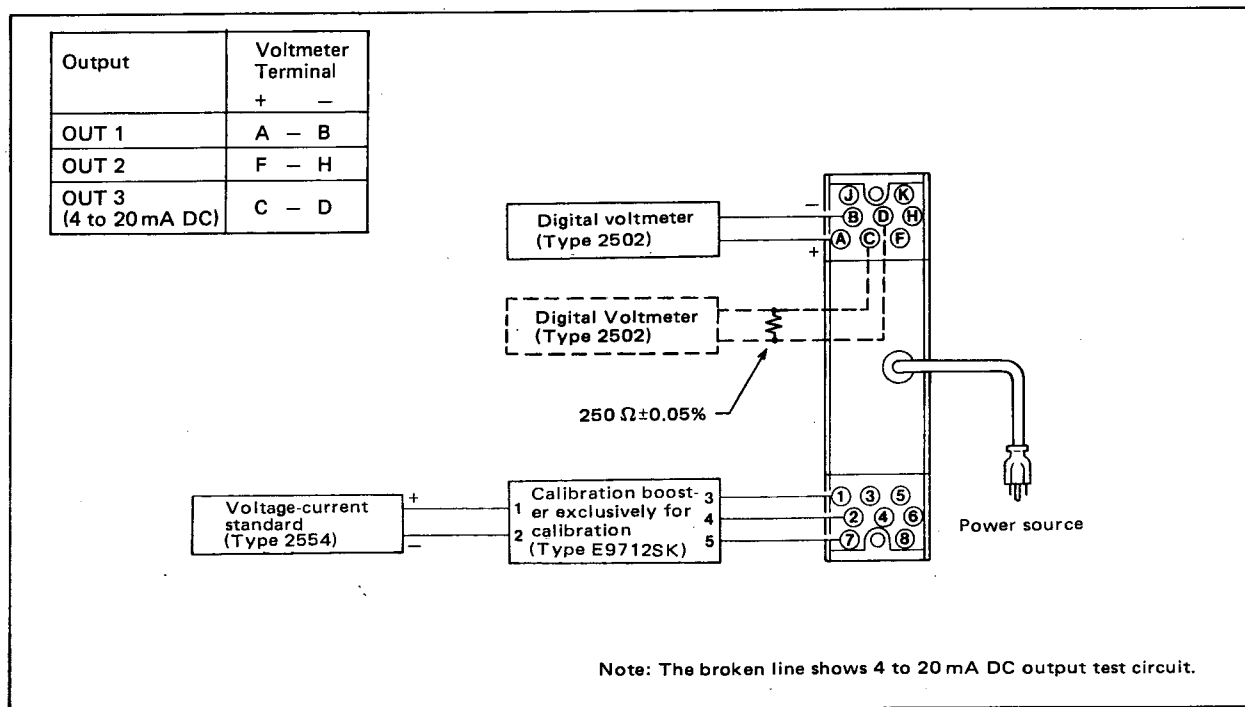

Figure 6-1. SDBT Calibration.
- (1) Connect the instruments as illustrated in Figure 6-1 or 6-2 and turn on the power switch. Allow the instruments to warm up for about 5 minutes.
- (2) Apply inputs corresponding to 0, 25, 50, 75 and 100% of the input range and confirm that the input/output relationships shown in Table 6-1 are satisfied by reading the output at each of these points with a digital voltmeter. In the case of 4 to 20 mA DC output test, put a parallel resistance ( $250\ \Omega \pm 0.05\%$ ) into terminal C – D and read in voltage number.
- (3) Since the SDBS distributor has four built-in distributor circuits, calibrate each of these circuits by using the procedure described in (2) above.
If any fault occurs in the instrument, note the symptoms. To find the fault, first wire the instruments according to Figure 6-1, apply an input signal, and follow the section 7-1 Troubleshooting flowchart.
- (2) Connect the instruments as illustrated in Figure 6-1. Turn the power ON and allow the instruments to warm up for at least 5 minutes.